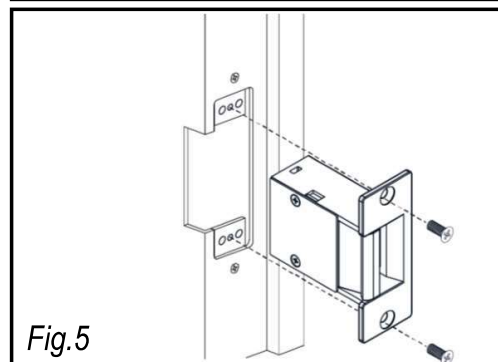

Fig.5
7. Conceal all wires in the door frame. Use two of the included machine screws to mount the unit to the mounting tabs. Adjust as needed to ensure the door closes smoothly (see fig. 5).